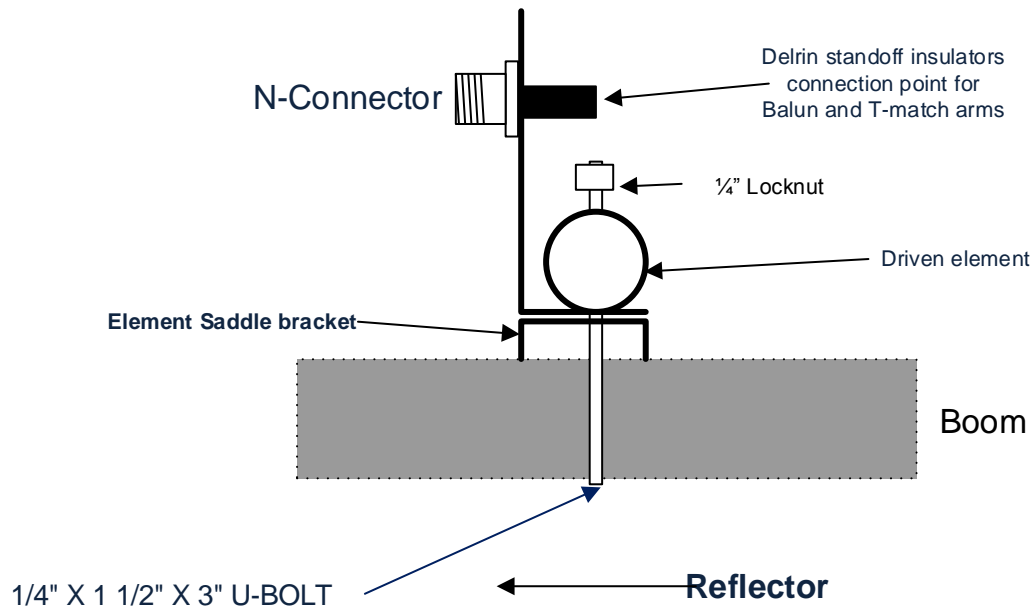

Figure 2
- The Driven Element (DE) mounts the same way; however, the connector bracket sits between the element and the element to boom saddle (see Figure 2).
- Similarly, assemble the Director (D) and attach it at the appropriate mark on the boom, making sure the element is perpendicular to the Reflector.